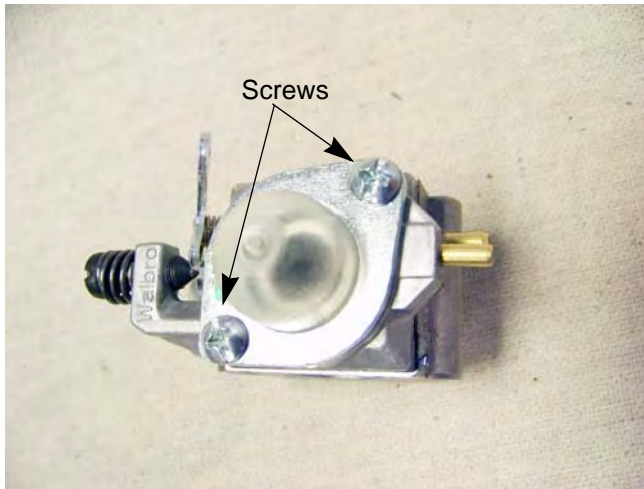

Figure 5.15
1. Remove the two screws that hold the primer pump body and the primer bulb to the carburetor using a #2 phillips screwdriver. See Figure 5.15.